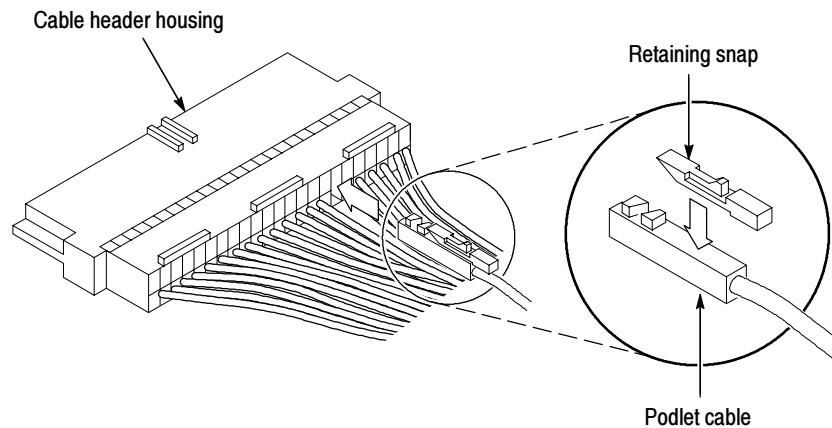

Figure 16: Installing the cable in the cable header housing
19. Insert the new podlet cable partially into the cable header housing. Place a new retaining snap (included with the kit) on the podlet cable as shown in Figure 16 and fully insert the cable and retaining snap into the cable header housing. Tug lightly on the podlet cable to ensure the retaining snap is in place.